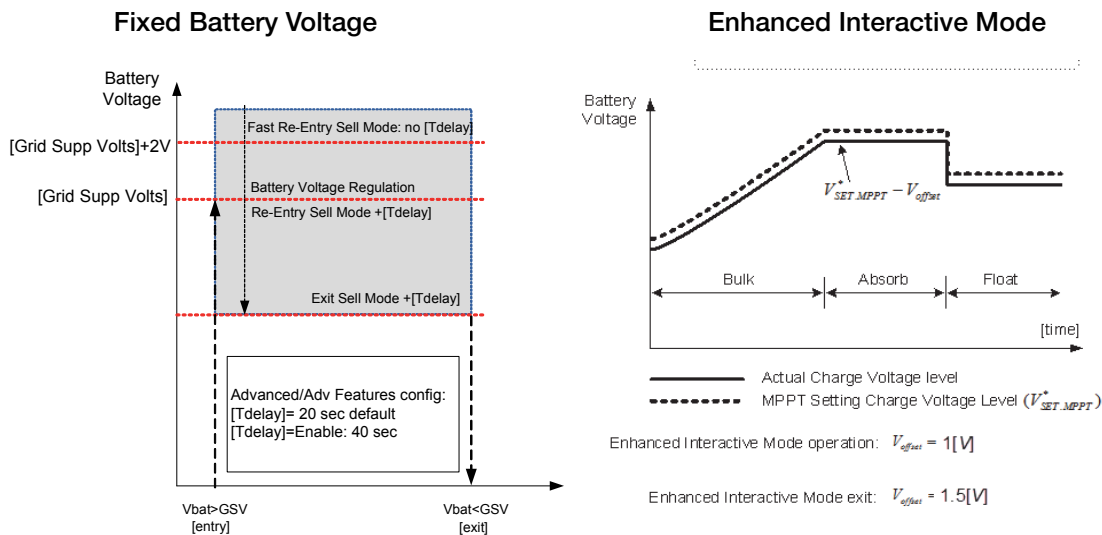

Figure 3-8 Grid-tie Sell Mode
| Sell            | <p>Turns sell mode on and off. When Sell is set to enabled, the Conext XW+ AC output is divided between powering loads and delivering power to the utility grid. Sell mode requires the battery voltage to be above Grid Supp Volts. All configurations must comply with local and national electrical codes. The renewable energy from the battery is exported to the grid as long as the battery voltage is greater than or equal to Grid Supp Volts. See Figure 3-8 on page 3–30.</p> <ul style="list-style-type: none"> <li>• Grid-tie entry condition: battery voltage is greater than Grid Supp Volts.</li> <li>• Grid-tie exit condition: battery voltage is lower than Grid Supp Volts less 0.5 V.</li> </ul> <p>There is a time delay associated with the entry and exit conditions. The default is 20 seconds. The delay can be extended to 40 seconds if the battery voltage is not very stable (Figure 3-3, “Basic and Advanced Settings” on page 3–7 and Table 3-12, “Advanced Features Menu” on page 3–49). This delay helps to avoid sell power fluctuations when the battery voltage fluctuates.</p> <p>There is an exception. The delay is zero when the battery voltage suddenly changes to 2 V above Grid Supp Volts. For example, when a wind turbine or micro-hydro is connected to a small battery bank which may create a sudden change on the battery voltage. In this case the system will immediately respond by converting the energy from the battery to grid.</p> |
**Grid Supp Volts** is set 0.5 volts below the voltage provided by the DC source (typically the float voltage setting of the DC source or charge controller). See Figure 3-8, “Grid-tie Sell Mode” on page 3–30. Schneider does not provide support for these energy sources.